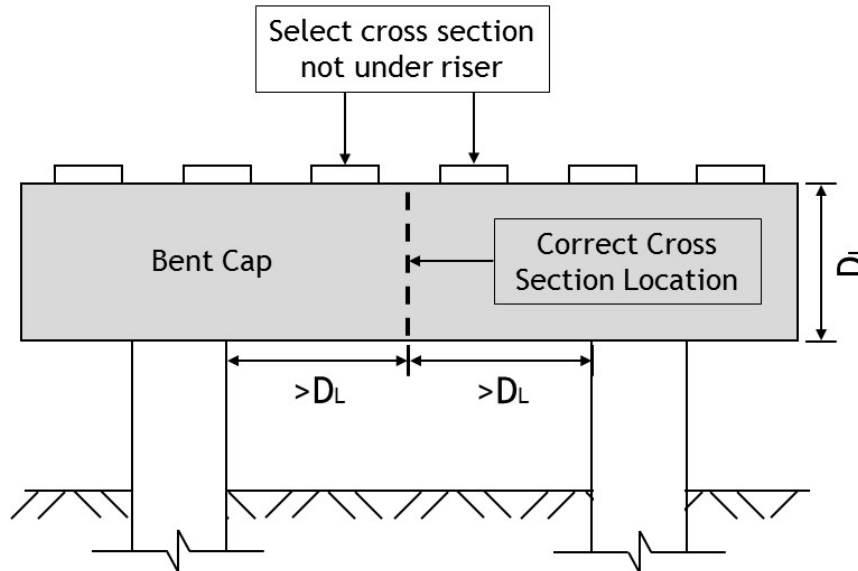

Figure 1: Proper temperature sensor cross-section location within a bent cap (D_L = least dimension) (example of a vertically oriented cross section)
2.3. Refer to Figures 1 through 5 for guidance on proper and inappropriate locations to position temperature sensors on cross sections.